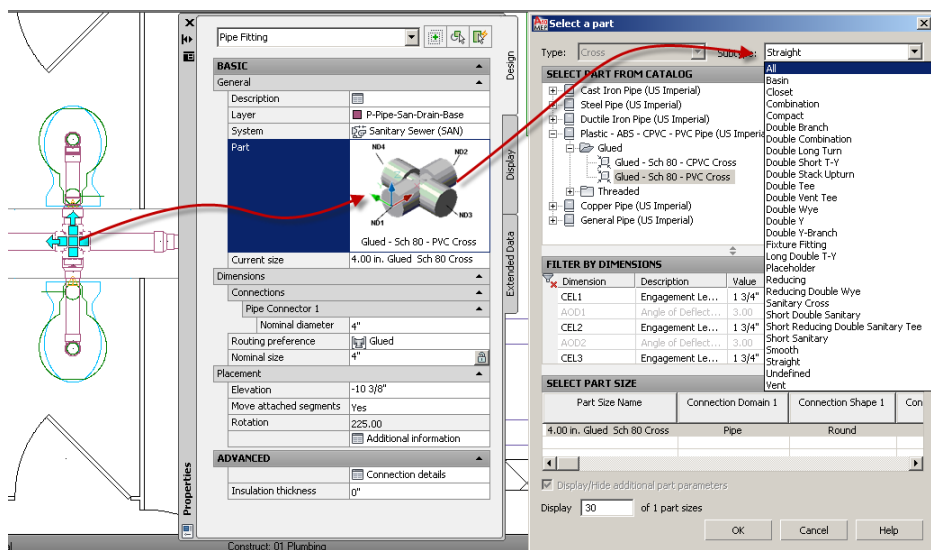

Figure 6.69
63. Change the Subtype filter to **All** (see Figure 6.69).